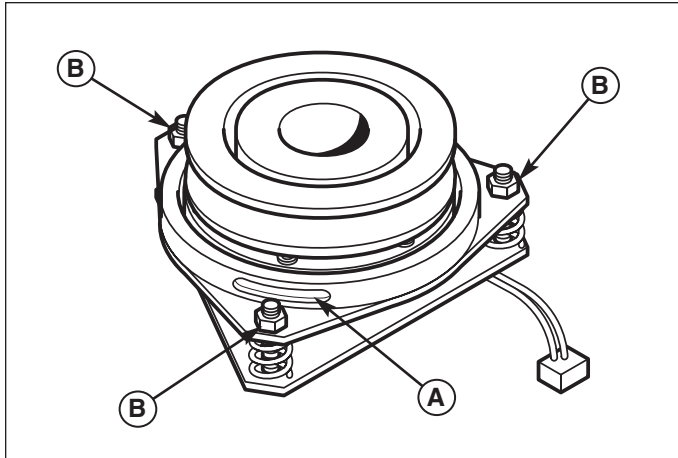

Figure 16. PTO Clutch Adjustment
2. See Figure 16. Note the position of the 3 adjustment windows (A) in the side of the brake plate and the nylock adjustment nuts (B).
4. Alternately tighten the adjustment nuts (B, Figure 16) until the rotor face and armature face just contacts the gauge.